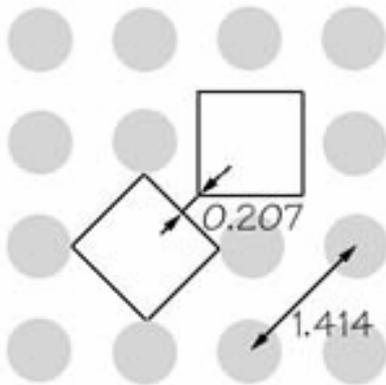

fig. 3 SNIR A Shape
- A) Orthogonally placed 1x1 parts: the gap between the two 1x1 part is $0.207L$ (fig.3)